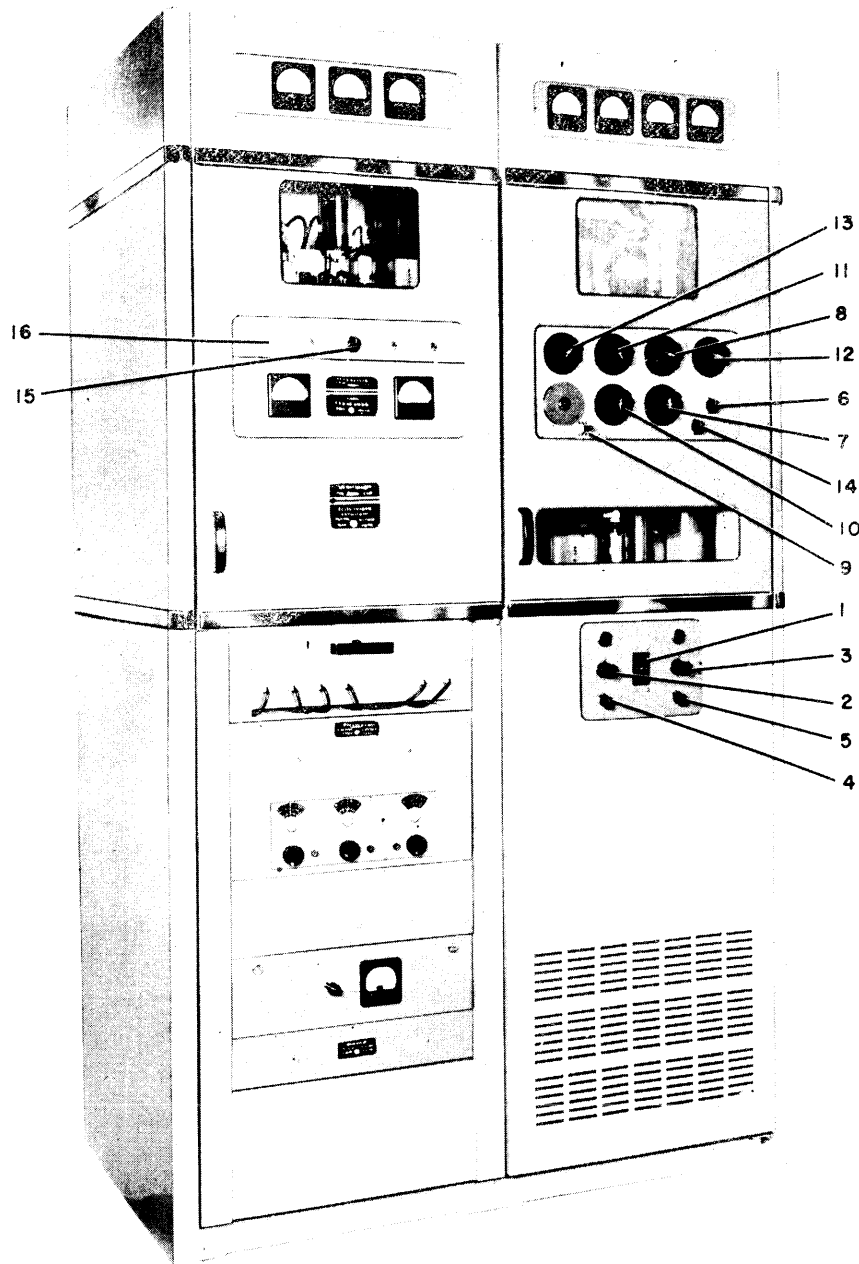

Figure 4-1. Radio Transmitter T-440/FRT-24, Location of Controls
b. OPERATING CONTROLS AND INDICATORS.—All operating controls and indicators to be used by operating personnel, except the POWER CHANGE switch, are located on the front panels of the equipment. The POWER CHANGE switch is located inside the upper-left door on the Power Change Assembly. No internal adjustments or settings should be attempted by the operator, other than those that may be indicated in Section 5. The various front-panel controls and indicators are shown in figures 4-1 through 4-6 and are as follows:
(1) POWER CONTROL ASSEMBLY.